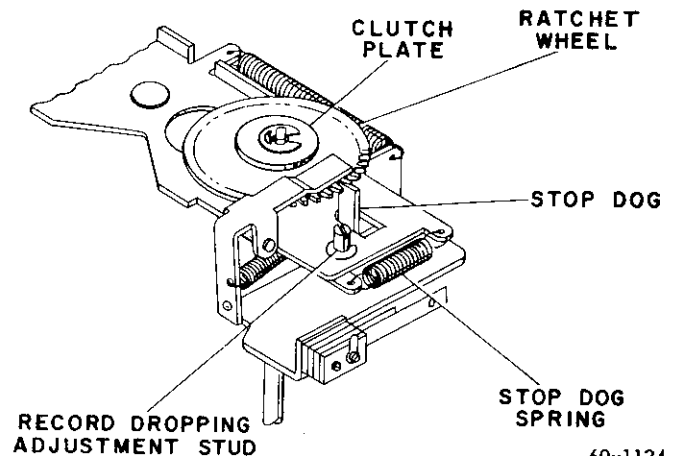

Fig. 44—Record Dropping Adjustment
- (c) Trip lever shaft may be binding in pivot (Fig. 44).
- (a) Trip wire may be improperly adjusted (Fig. 44).
- (b) Trip lever shaft may be binding in pivot (Fig. 44).
- (c) Cycling cam set too close to roller (Fig. 44).
- (d) Cycling cam tab may be bent (Fig. 44).
- (e) Cycling cam shaft may be binding in pivot (Fig. 44).
- (b) Cycling cam incorrectly positioned (Fig. 44).
- (c) Cycling cam shaft may be bent (Fig. 44).
(2) Automatic tripping occurs after each record has been played. The tripping position is adjusted by means of the small eccentric stud located on the trip lever. Turning this stud varies the position of the tripping spring in relation to the turned down lance on cycling cam (Fig. 44) adjust as follows: